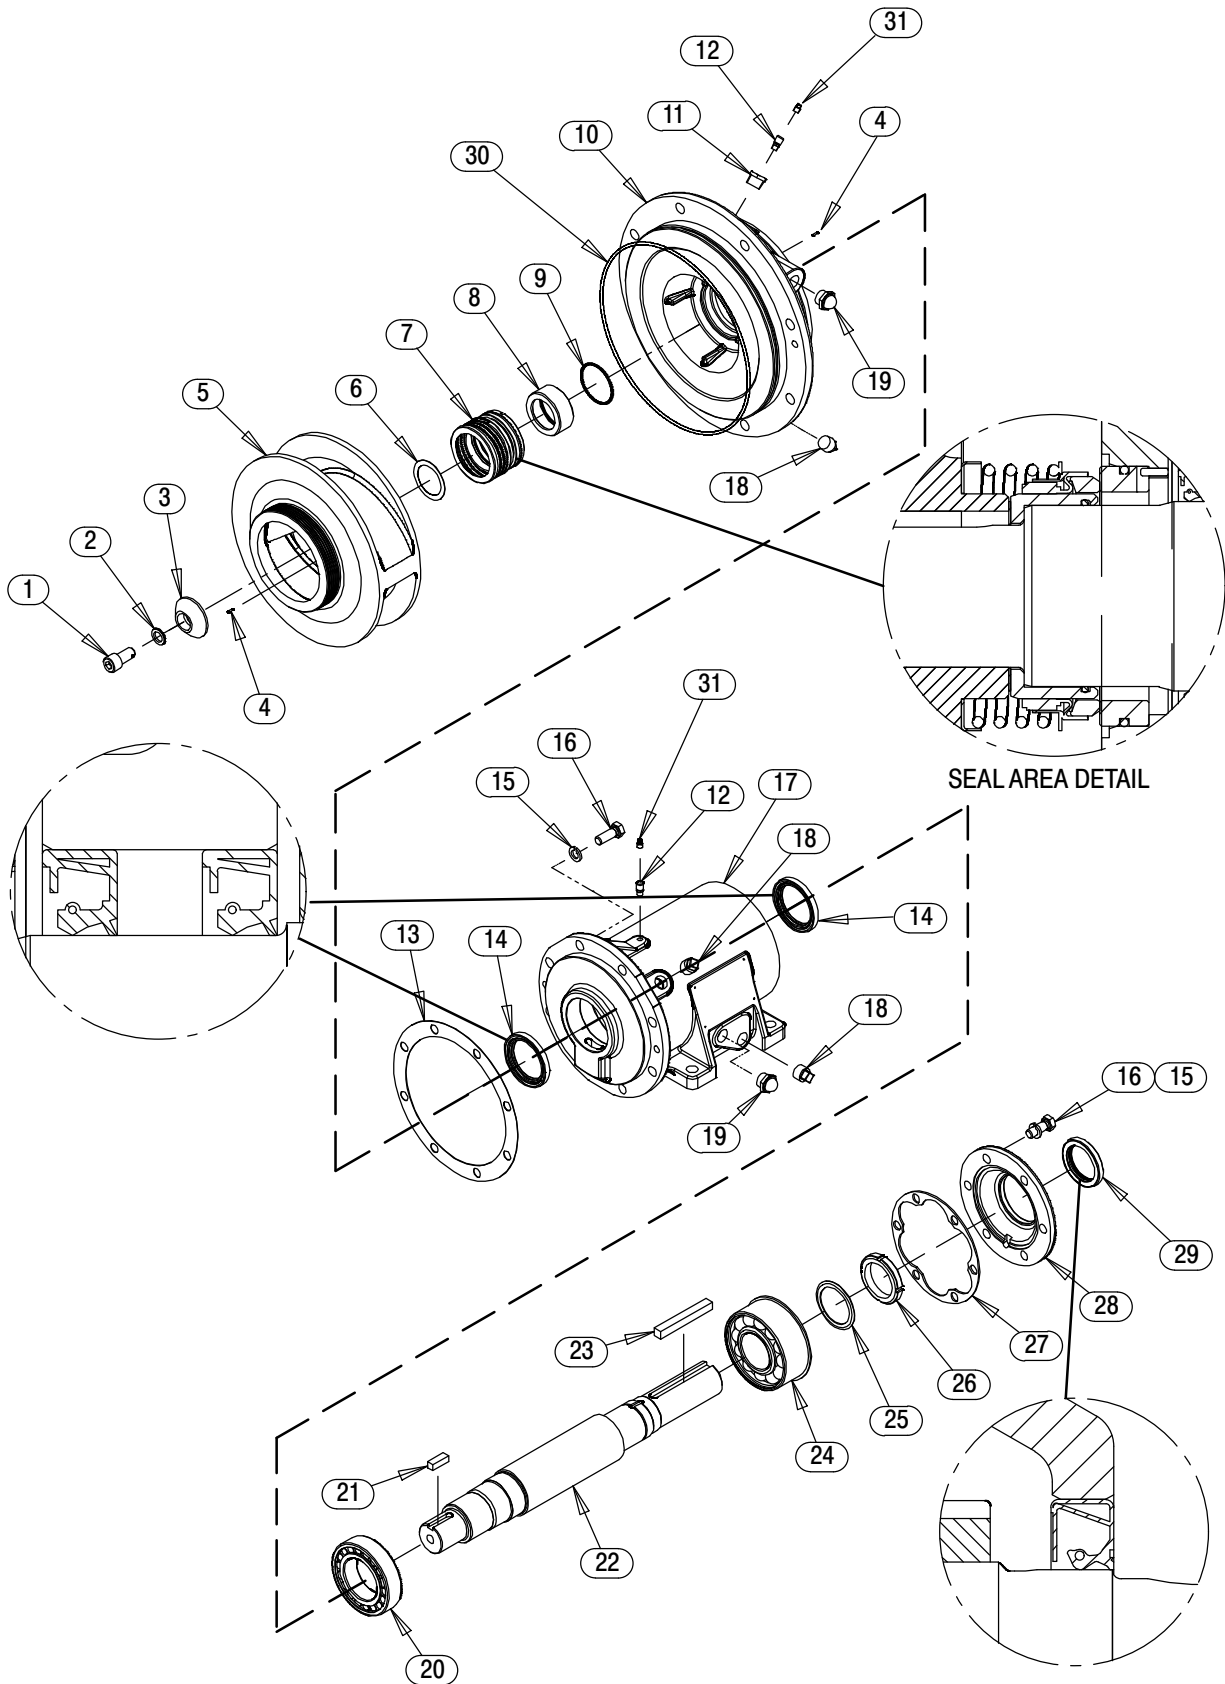

Figure 2. Repair Rotating Assembly
### (Figure 2)
### (Figures 2 and 3)
Further disassembly requires separating the rotating assembly from the power source. Remove the coupling securing the rotating assembly to the power source and remove the key (23, Figure 2).
#### (Figure 2)